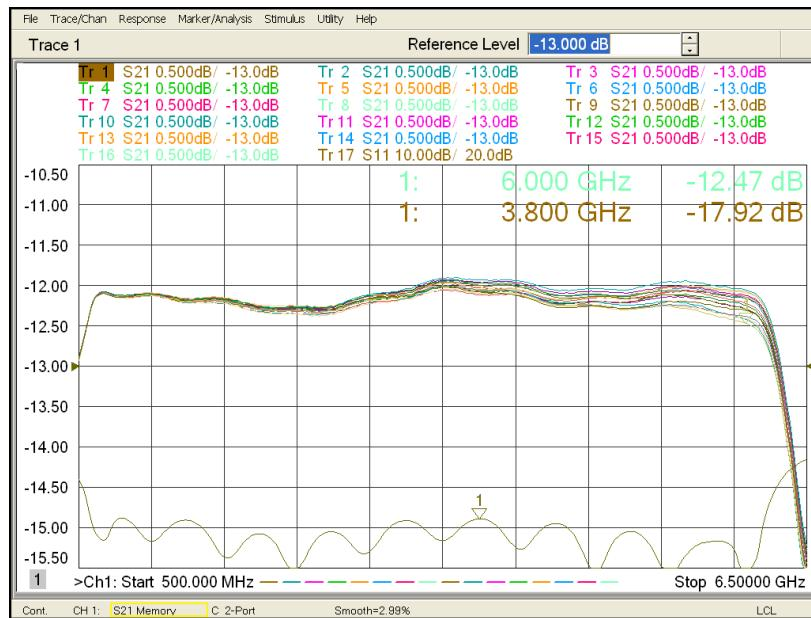

Figure 4-6. Typical Sixteen-Way Combiner Insertion and Return Loss: Combined Output Port
6. A typical Sixteen-Way Combiner Insertion Loss and Combined Port Return Loss is shown in Figure 4-6. The unused port must be terminated when checking the Insertion Loss.
NOTE: The Return Loss of the Sixteen-Way Combiner's combined output port is typically better than 17dB (see Figure 4-6).